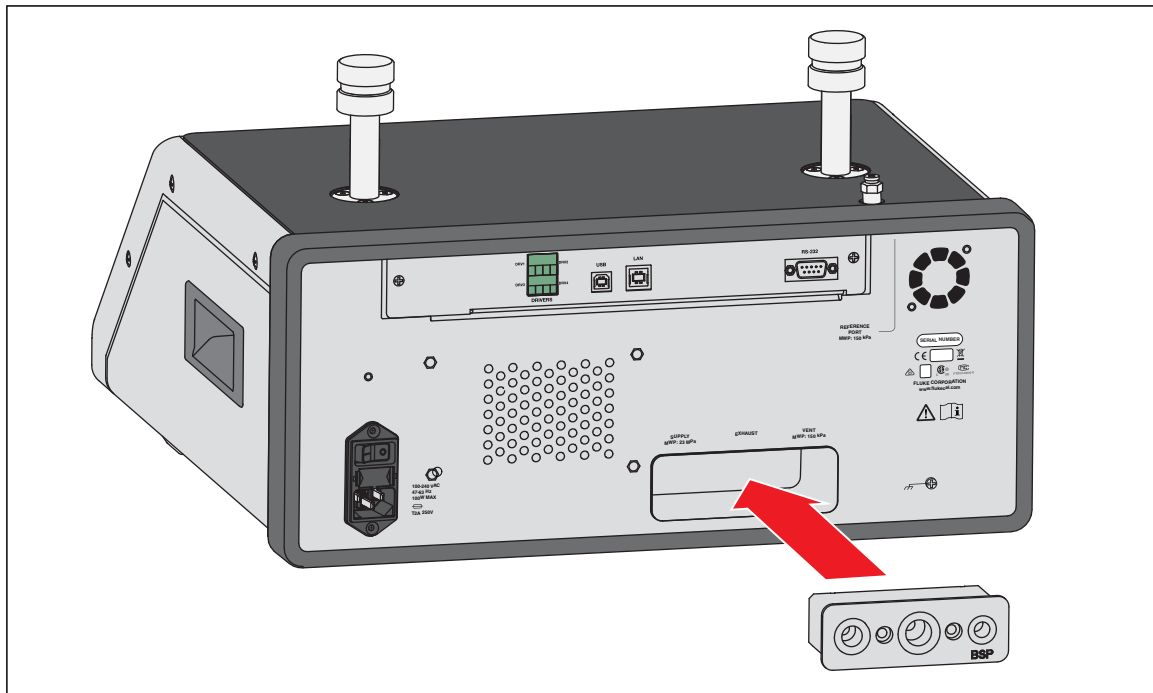

Figure 29. Manifold Installation
3. Replace the manifold and tighten the four bolts, torque: 6.2 N m (55 lbf in). See Figure 29.